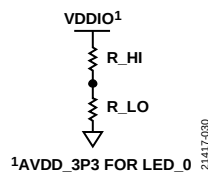

Figure 27. Hardware Configuration Pin Implementation
Hardware configuration pins are pins shared with functional pins and the voltage level on the pin is sensed and latched upon exiting from a reset. Some hardware configuration pins are multilevel sense, while others are two-level sense. Using two resistors, R_LO and R_HI (see Figure 27), four different voltage levels can be sensed, as shown in Table 19. Only MODE_1 (L) and MODE_4 (H) are relevant to the two-level sense pins and these are implemented with a 10 kΩ pull-down resistor or a 10 kΩ pull-up resistor, respectively. Note that LED_0 must be pulled up to the AVDD_3P3 rail rather than VDDIO.